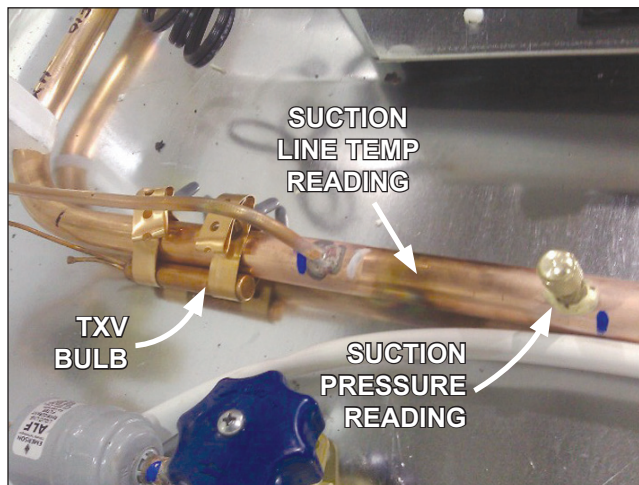

Fig. 18 Obtain pressure and temperature readings
1. Obtain suction pressure from access port; obtain suction line temperature from area near TXV bulb at the outlet of evaporator coil (Fig. 18).